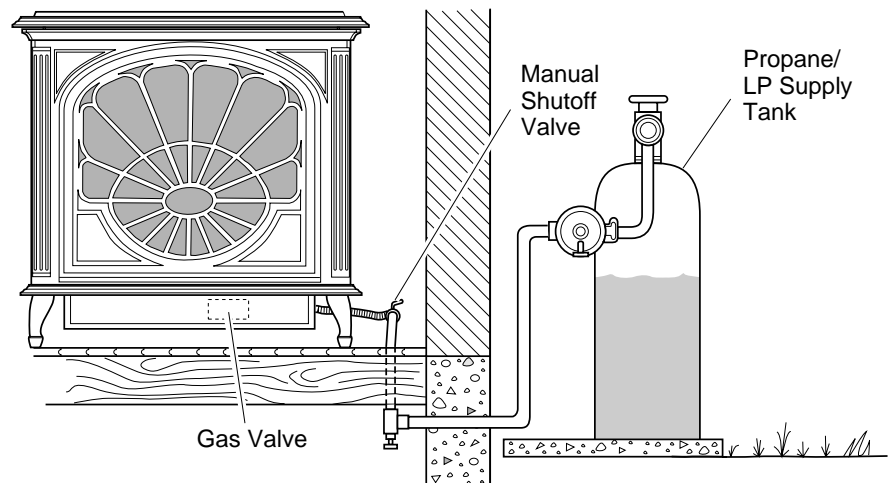
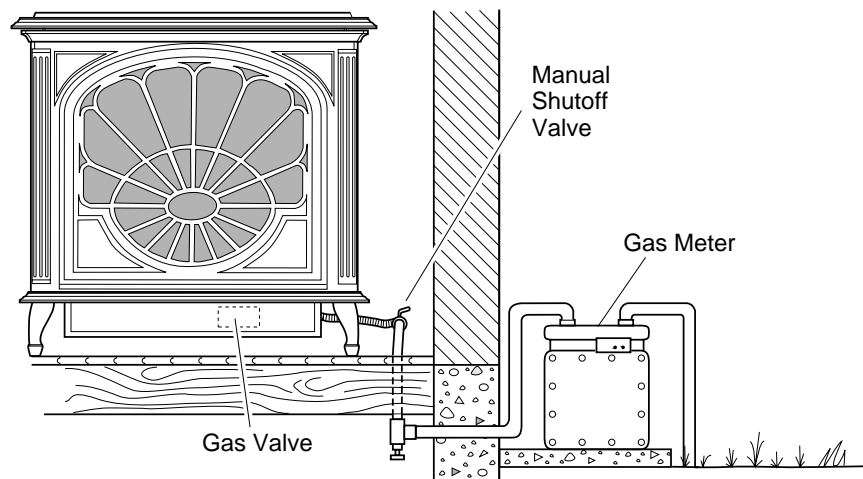

Figure 29 - Checking Gas Joints for Propane/LP Gas Freestanding Fireplace
Figure 30 - Checking Gas Joints for Natural Gas Freestanding Fireplace
3. Check all joints from propane/LP supply tank or gas meter to manual shutoff valve (see Figure 29 for propane/LP or Figure 30 for natural). Apply commercial leak test solution to all gas joints. Bubbles forming show a leak. Correct all leaks at once.
4. Check all joints from manual shutoff valve to thermostat gas valve (see Figure 29 for propane/LP or Figure 30 for natural). Apply commercial leak test solution to all gas joints. Bubbles forming show a leak. Correct all leaks at once.